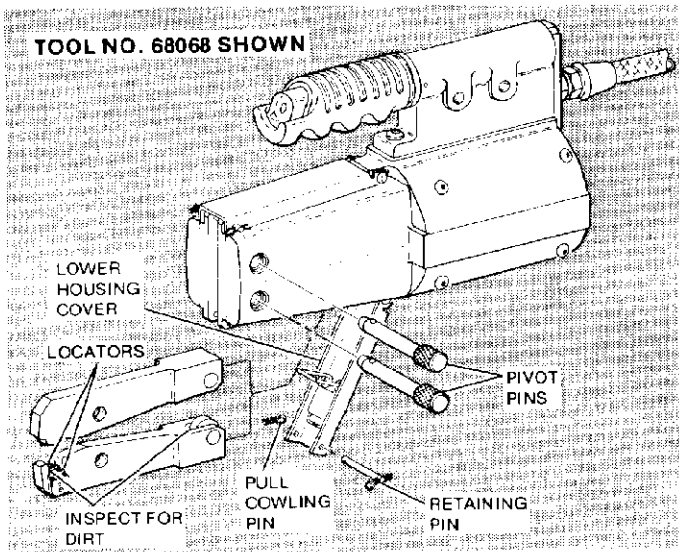

Figure 2
- (b) Inspect the die closure surfaces, bottoming surfaces and cam rollers for deposits of dirt or other foreign particles and wipe with a clean cloth. See Figure 2. Relubricate cam rollers as instructed in paragraph 4.3. NOTE: Be sure cam rollers are not binding.
- (d) Pull one cowling pin and remove retaining pin from lower housing cover. Cover will swing open. See Figure 2.
- (e) Remove pivot pins as shown in Figure 2.
- (f) Position jaw with locators on bottom as shown in Figure 2.